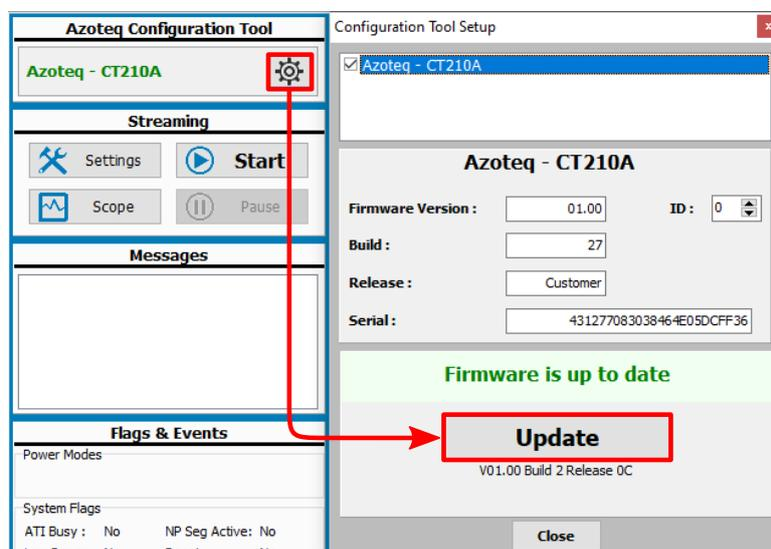

Figure 2.5: CT210A Configuration Tool Setup
**Note:** Pressing the 'Gear' will open up the configuration tool setup window. The new window will display the CT210A's serial number and current version. The user will receive a prompt if the connected CT210A device firmware is out of date. The firmware can be updated by pressing the 'Update' button. In the image displayed in Figure 2.5 below, the CT210A connected was already up to date with the latest firmware and did not require an update.